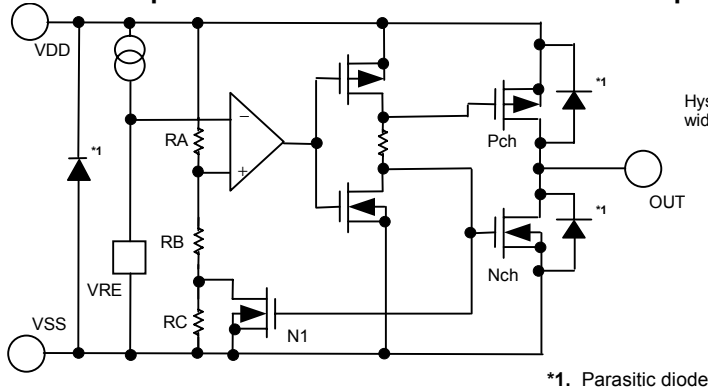
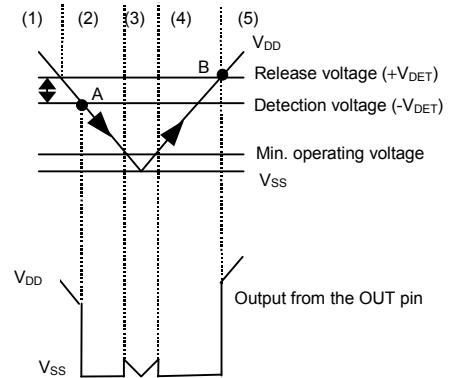

Figure 15 Operation 1
Figure 16 Operation 2
The hysteresis width is the voltage difference between the detection voltage and the release voltage (See **Figure 16**).
- (1) When the power supply voltage V_{DD} is higher than the release voltage $+V_{DET}$, the Nch transistor is OFF and the Pch transistor is ON to provide V_{DD} (high) at the output. Since the Nch transistor N1 in **Figure 15** is OFF, the comparator input voltage is $(RB+RC)/(RA+RB+RC) \times V_{DD}$.
- (2) When the V_{DD} goes below $+V_{DET}$, the output provides the V_{DD} level, as long as the V_{DD} remains above the detection voltage $-V_{DET}$. When the V_{DD} falls below $-V_{DET}$ (point A in **Figure 16**), the Nch transistor becomes ON, the Pch transistor becomes OFF, and the V_{SS} level appears at the output. At this time the Nch transistor N1 in **Figure 15** becomes ON, the comparator input voltage is changed to $RB/(RA+RB) \times V_{DD}$.
- (3) When the V_{DD} falls below the minimum operating voltage, the output becomes undefined, or goes to the V_{DD} when the output is pulled up to the V_{DD} .
- (4) The V_{SS} level appears when the V_{DD} rises above the minimum operating voltage. The V_{SS} level still appears even when the V_{DD} surpasses $-V_{DET}$, as long as it does not exceed the release voltage $+V_{DET}$.
- (5) When the V_{DD} rises above $+V_{DET}$ (point B in **Figure 16**), the Nch transistor becomes OFF and the Pch transistor becomes ON to provide V_{DD} level at the output.